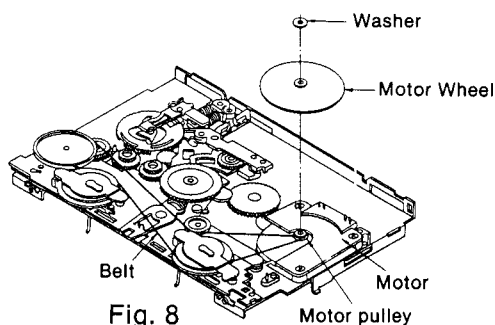

Fig. 8
2. Remove the washer and motor wheel to remove the belt from the motor pulley. (See Fig. 8.)